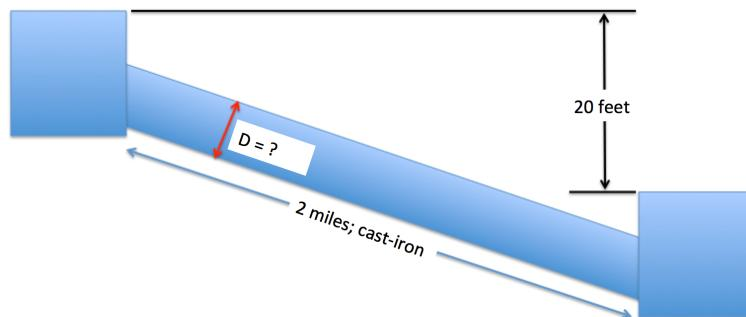

Figure 2: Pipeline connecting two reservoirs
- (c) Estimate the diameter of a cast-iron pipe needed to carry 60°F water at a discharge of 10 cubic-feet per second (CFS) between two reservoirs 2 miles apart with an elevation difference between the water surfaces in the two reservoirs of 20 feet as depicted in Figure 2.